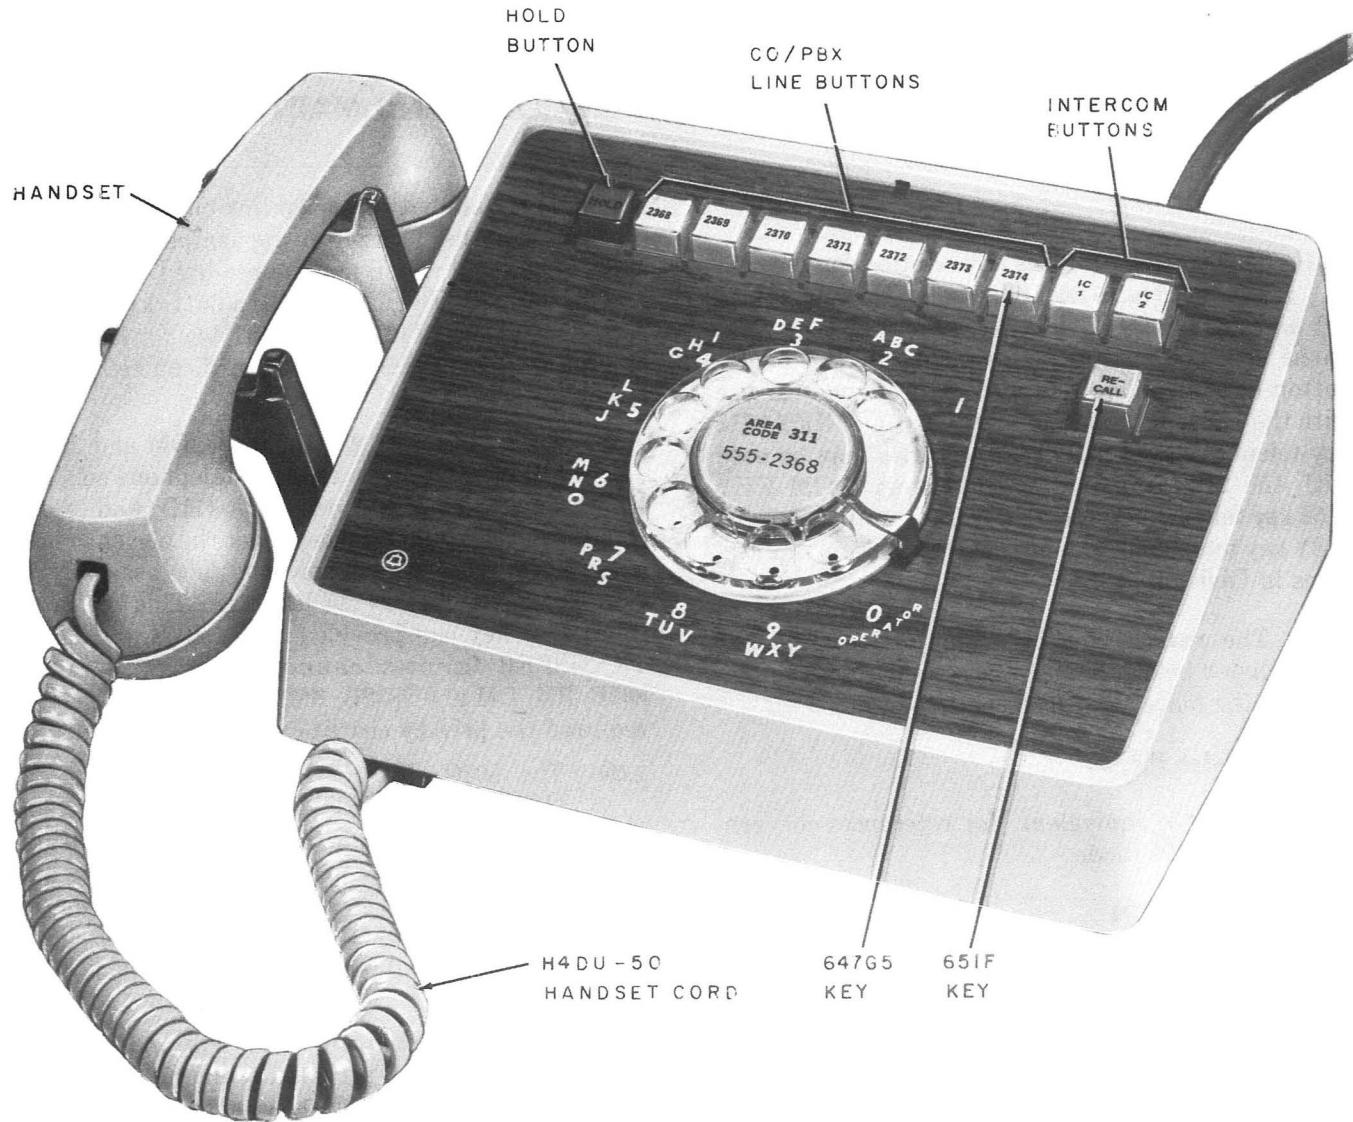
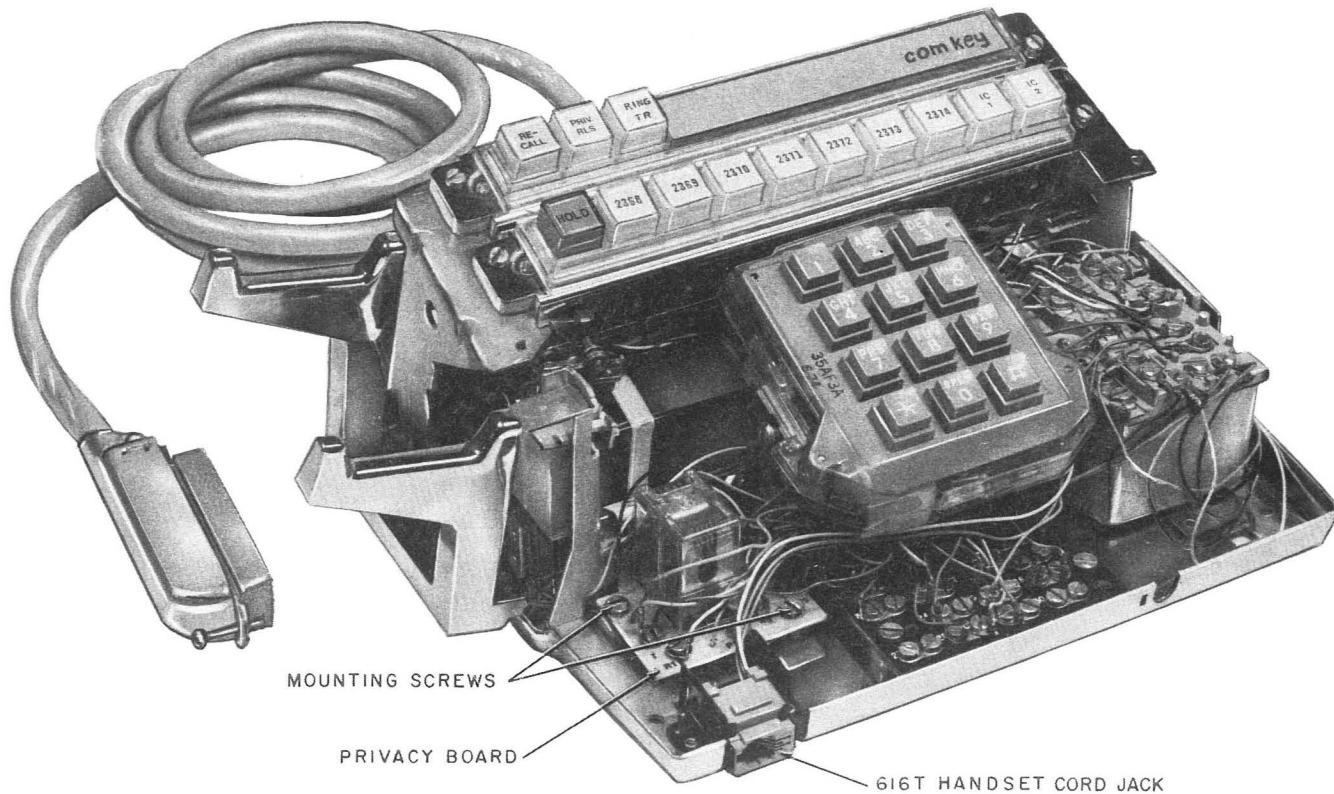

Fig. 1—832BM Telephone Set
Fig. 3—2832CM Telephone Set Base
2.01 The 832BM (Fig. 1), 2832BM, 832CM, and 2832CM (Fig. 2) are modular type telephone sets and will replace the 832B, 2832B, 832C, and 2832C telephone sets, respectively, which are hereby rated MD. The 832DM, 2832DM, 832EM, and 2832EM are also modular sets and are electrically and functionally equivalent to the 832BM, 2832BM, 832CM, and 2832CM sets, respectively, except that they have been adapted for wall mounting. The modular sets are equipped with a G15A-50 handset and H4DU-50 handset cord which plugs into a 616T jack mounted on the left front of the telephone set base (Fig. 3). Current production models of these sets also are equipped with an improved line switch and an improved Automatic Button Restoral (ABR) feature. Some early production BM and CM sets do not have this feature.
(1) Mount privacy circuit board on the two standoffs located at left front of the telephone set base (Fig. 3).
(2) Fasten circuit board to standoffs using mounting screws furnished with the telephone set.
(3) Connect leads according to Table C.
(4) Refer to paragraph 3.18 for testing the privacy release key.